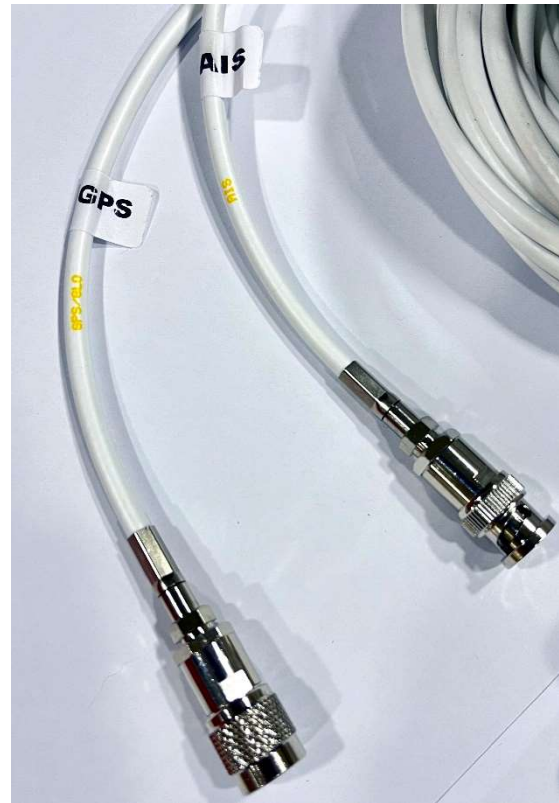

Figure 1
- The GV30 VHF/GPS antenna supplied with the NOMAD2 comes with two 10m cables and a pair of adaptors – one for a BNC and one for a TNC type connector. The cables are terminated in a pair of identical FME connectors that screw into the supplied adaptors. Care must be taken to fit the BNC adaptor to the AIS labelled cable and the TNC adaptor to the GPS labelled cable (see Figure 1).